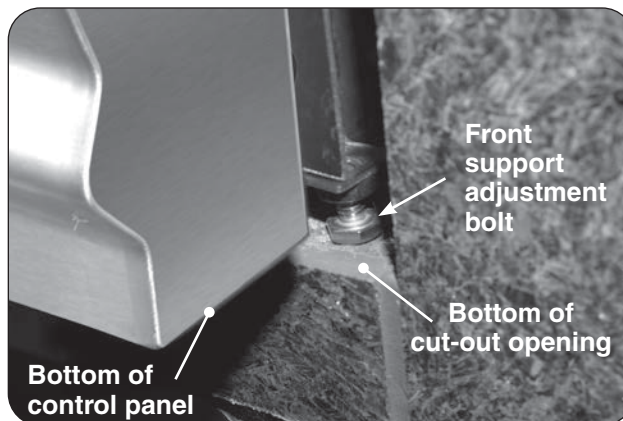

Fig. 18-3 Front support adjustment bolts
This outdoor built-in grill must be supported by the stainless-steel hanger extending from the upper portion of the grill. The hanger rests on the left, right, and back of the countertop and on the two front support adjustment bolts located below the control panel on the left and right sides (see Fig. 18-3).
2. Rotate the front support adjustment bolts to the left to raise and to the right to lower the respective side of the appliance. Use a $\frac{7}{16}$ " open-end wrench as needed. See Fig. 18-3.